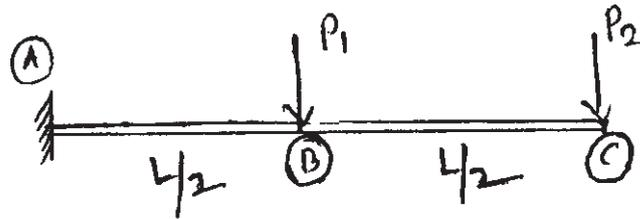

fig. 7.b
b) For a cantilever beam loaded at two locations as shown in fig. 7.b, Draw shear force and bending moment diagrams. [8]